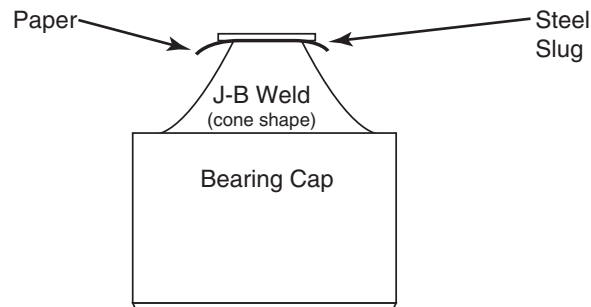

Figure 4
7. Apply a liberal amount of epoxy to form a cone shape as shown. (See Figure 4.)